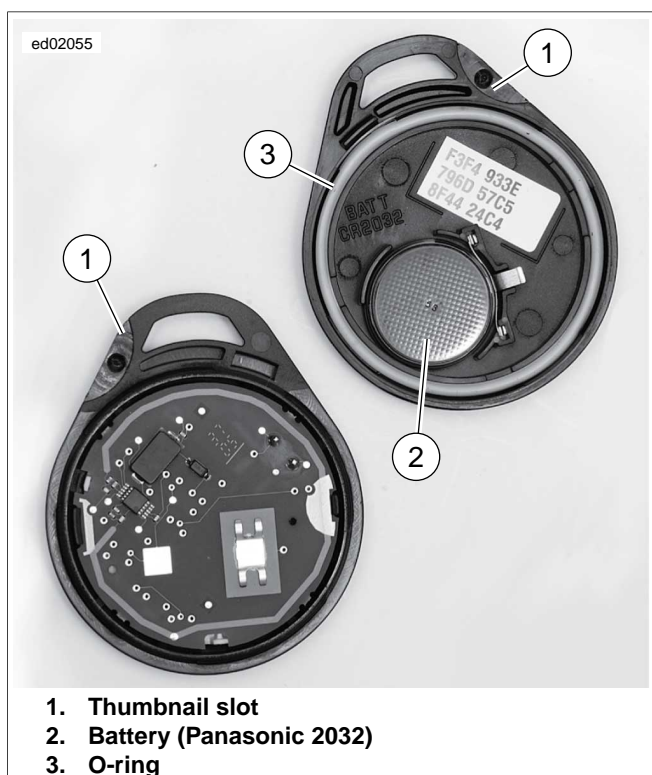

Figure 3-32. Open Fob: HFSM
1. See Figure 3-32. Open the fob case.
- a. Place a thin blade in the thumbnail slot (1) between the two halves of the case.
2. Replace battery (2).
3. With O-ring (3) in place, align case halves and snap case halves together.